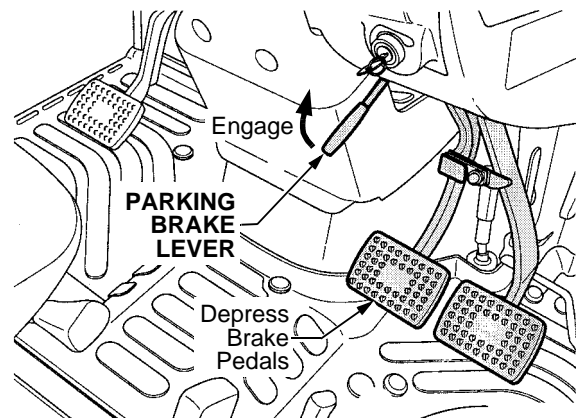

Figure 22
- Engage the parking brake. See Figure 22.